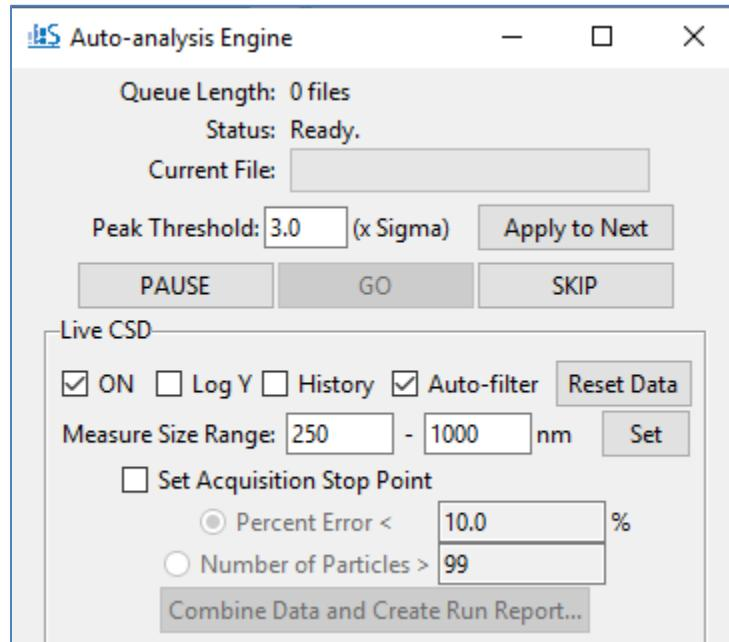
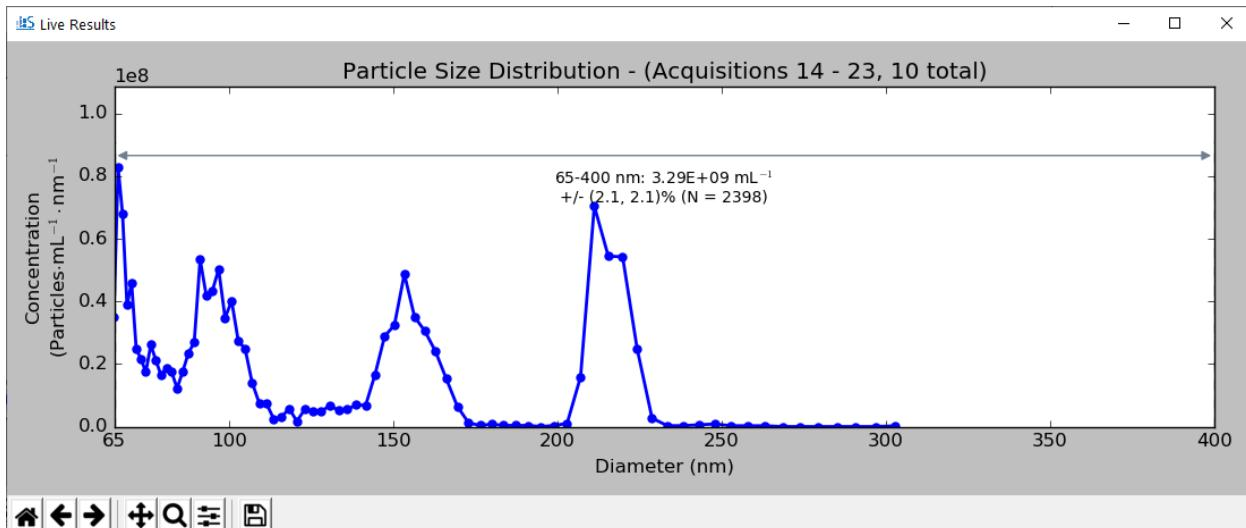

Figure 11. Auto-analysis Engine Interface.
Figure 12. An example of the Live CSD plot.
- The particle concentration (with error) measured over any user-defined size range can be obtained in real time (Figure 12) using the Live CSD feature of the Auto-analysis Engine (Figure 11).